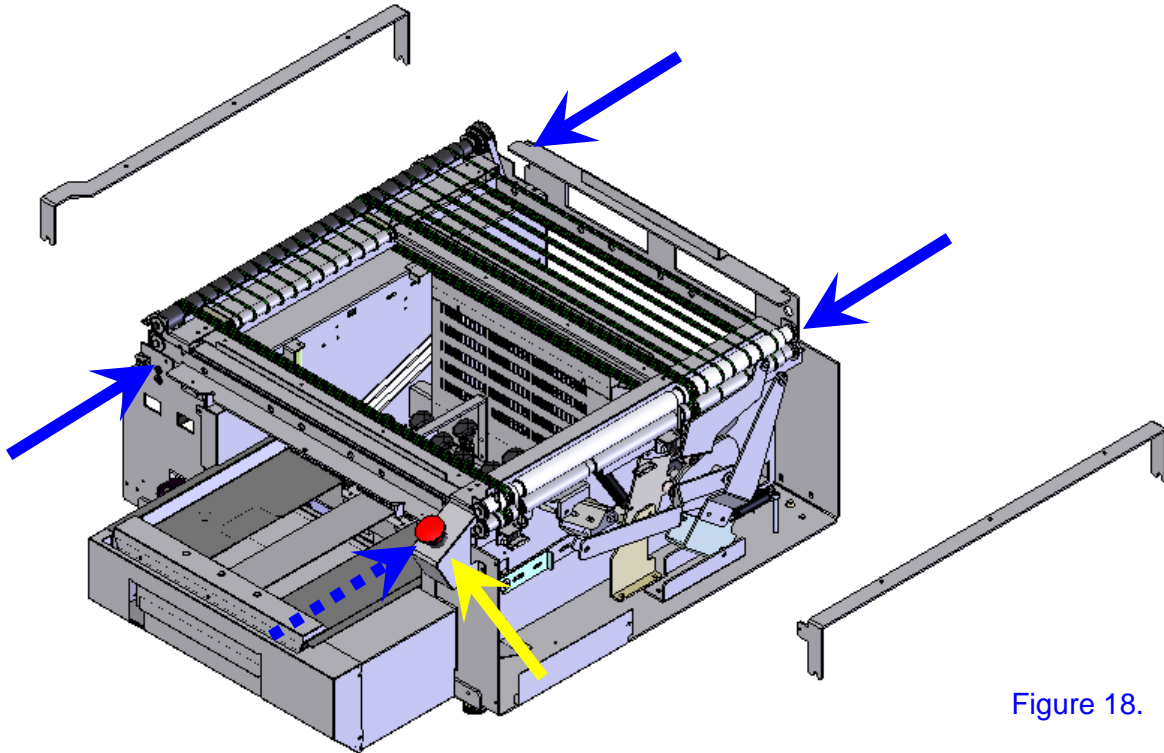

Figure 18.
21. Dismount the E. Stop switch assembly as indicated by the yellow arrow. See Figure 18.